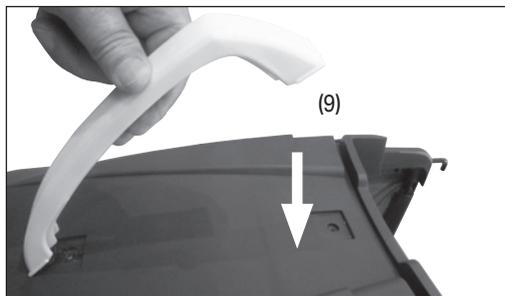

Fig.6
- Pull out and turn both adjustment knobs (12) to release the pins from the holes.
6.5 Assembling the Collection Bag and Handle (Fig.6)